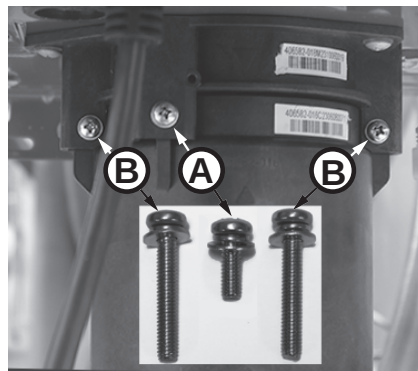

Figure 203 - Identify cartridge screws
- 6 Locate the three (3) screws securing the X3®/Bypass cartridge as shown in Figure 203. Remove the **(A)** M4-12mm screw and the two **(B)** M4-25mm screws from cartridge. Place screws aside in a safe place for reinstallation.